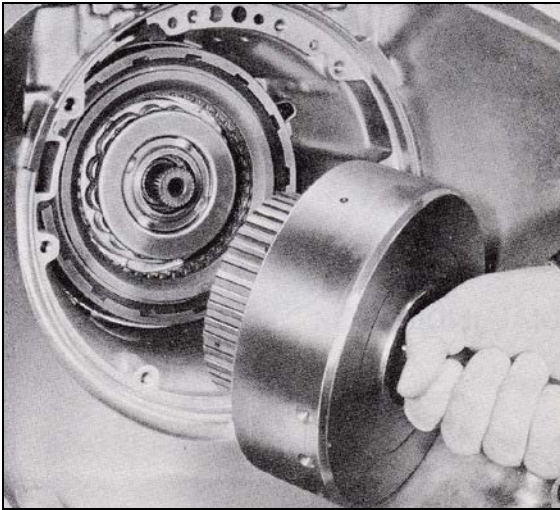
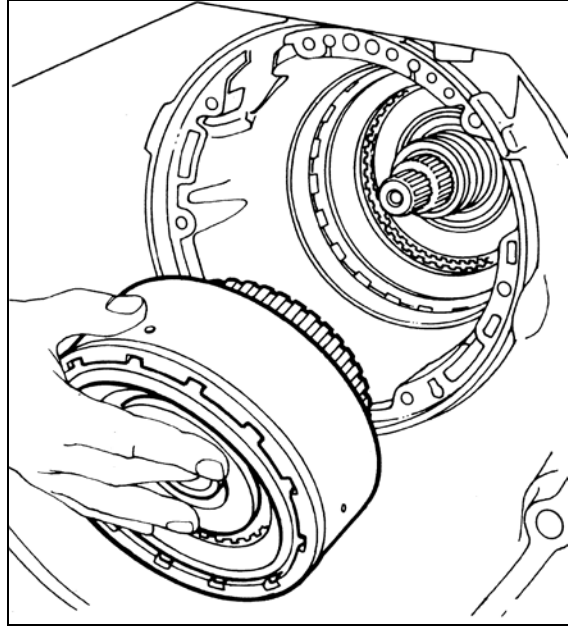

FIGURE 2-51
FIGURE 2-52
Remove the forward clutch assembly from the case. See Figure 2-51. Remove the direct clutch assembly from the case. See Figure 2-52. If it did not come out with the forward clutch housing, you will find the thrust washer (617) at the front of the direct clutch housing. Note that modified transmissions may use a thrust bearing at this location.